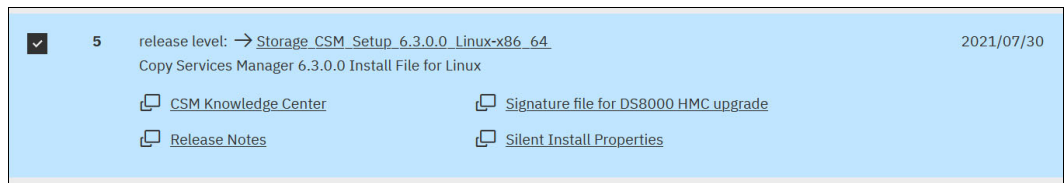

Figure 6-9 IBM Copy Services Manager Linux-x86_64 package
2. Be sure to download the correct Linux-x86_64 release. Figure 6-9 shows the correct package type selected. Check the Release Notes, and if there is a newer fix pack file, you can use it instead.